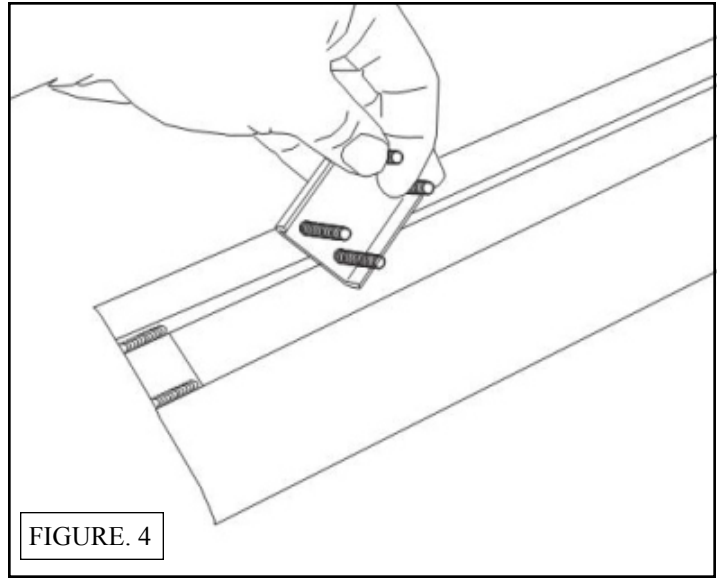

FIGURE. 4
- Repeat steps 2-5 for the passenger side. *NOTE: THE PASSENGER SIDE MOUNTING BRACKETS WILL USE (3) RIGHT MOUNTING BRACKETS AND (1) LEFT MOUNTING BRACKET FOR THE REAR.*
- Take the drivers side step bar and place it on the mounting cradles attach the step bar using the M6 hardware included with the step bars, attach the bars as shown in. Do not fully tighten at this time. *FIGURE 4, 5, & 6*
- Take the drivers side step bar and place it on the mounting cradles attach the step bar using the M6 hardware included with the step bars. Attach the step bars as shown in *FIGURE 4, 5, & 6*. Align and adjust step bars as needed then fully tighten all hardware at this time. Torque M8 hardware to 30-35 ft lbs, and M6 hardware to 15-20 ft lbs.